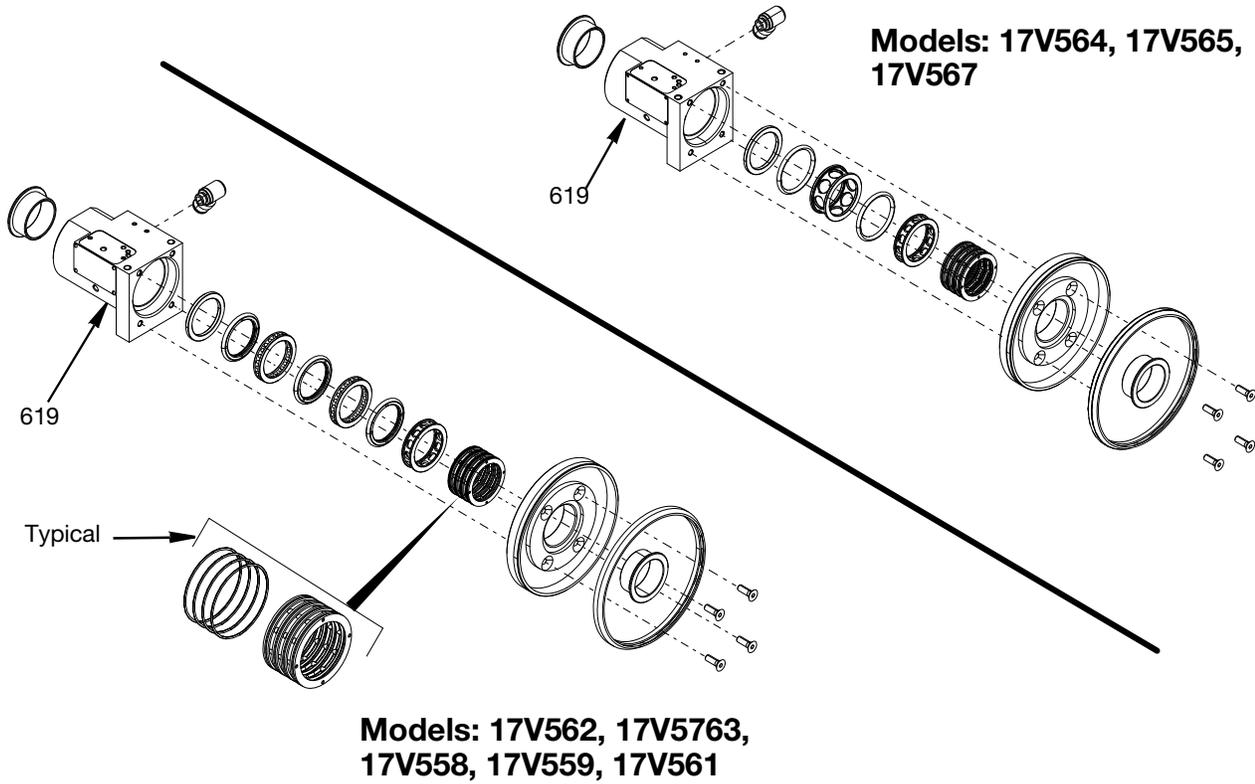

FIG. 22
11. All internal parts and seals can now be removed from the swivel housing (619). All internal gaskets and seals should be replaced if the swivel chamber is dismantled. See FIG. 22.